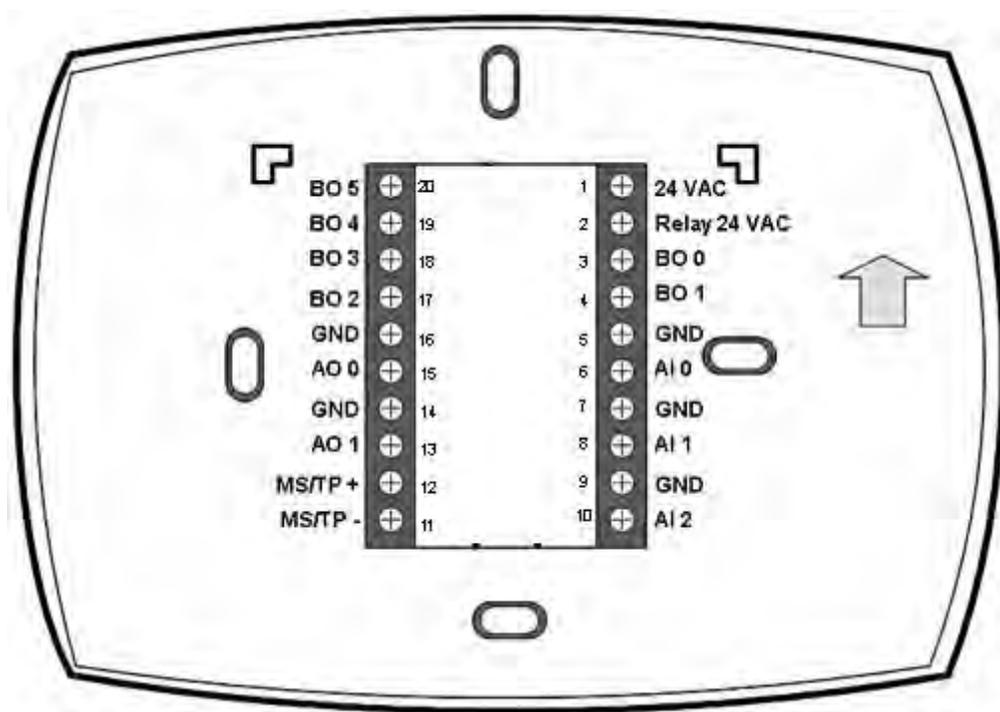

Figure 3 VLD terminal assignments and pin numbers
1. Connect wires to the terminal block using Figure 3 as a guide. Note that VLD does not have COM connections. All grounds are tied together.